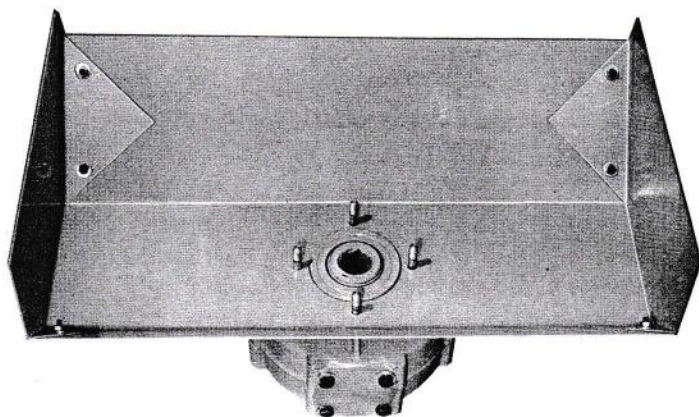

FIGURE 23
4. Fit the Hood as shown in Figure 23. Insert the Cultivator Drive Shaft into the Gear Housing.